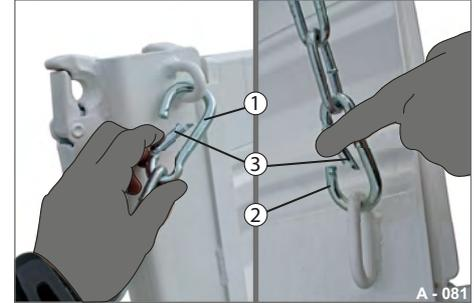

Fig. 82 Removing safety chain
- ▶ Press in the safety guard (Fig. 82/3) of the carabiner hook (Fig. 82/1 & Fig. 82/2) and remove the hook from the eyelet.